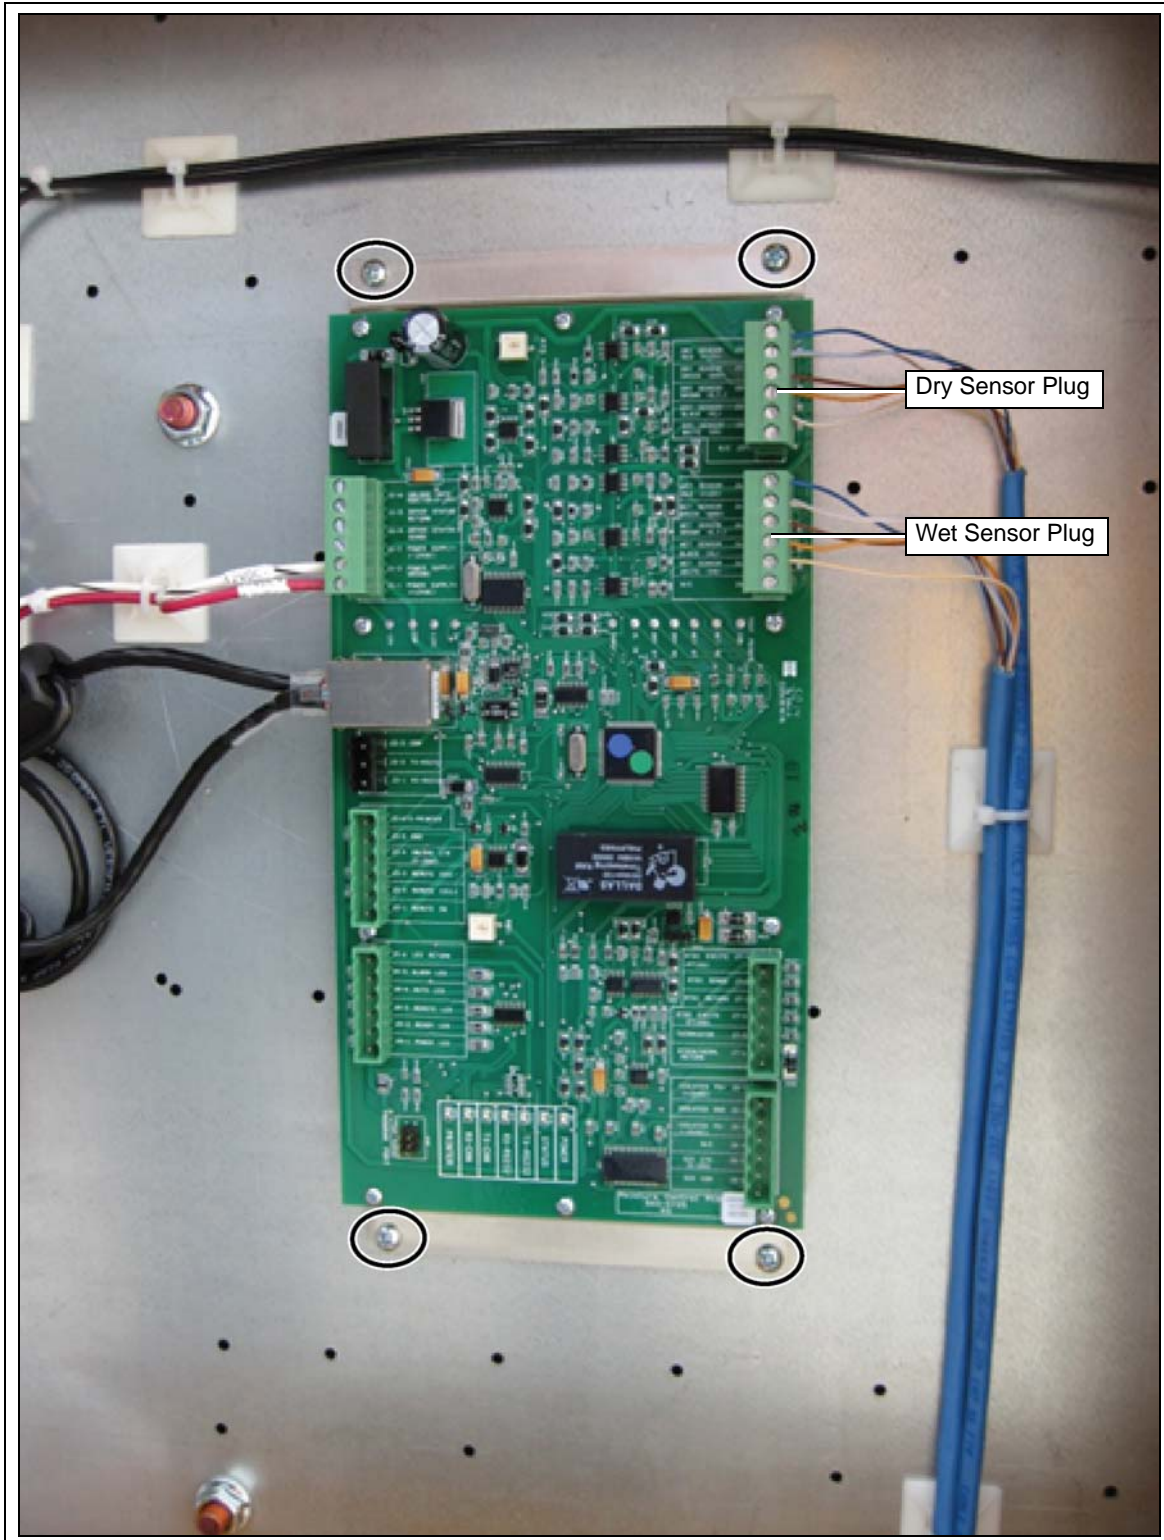

Figure 2 Remove Bracket and MC Board
3. Remove the four (4) screws holding the board mounting bracket from the back panel. *(See Figure 2.)*